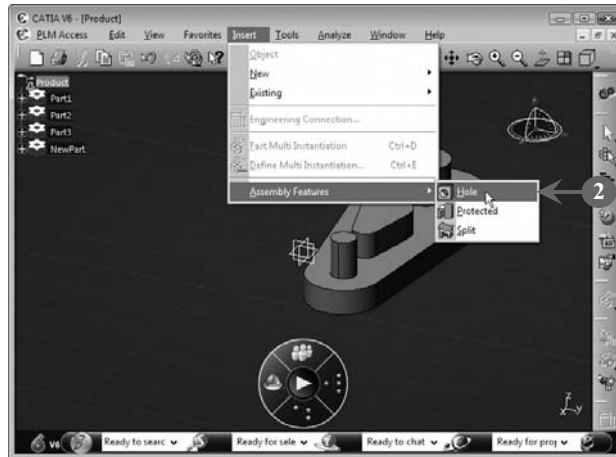

FIGURE 4.39
2. *Select* **Insert>Assembly Features>Hole** from the menu bar, as shown in **Figure 4.39**: